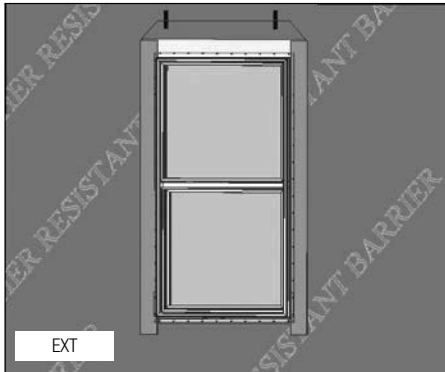

FIG. 12
- A) Cut and apply side flashing. Side flashing should run from the bottom of the sill flashing to 4" above the rough opening. (Fig. 12)